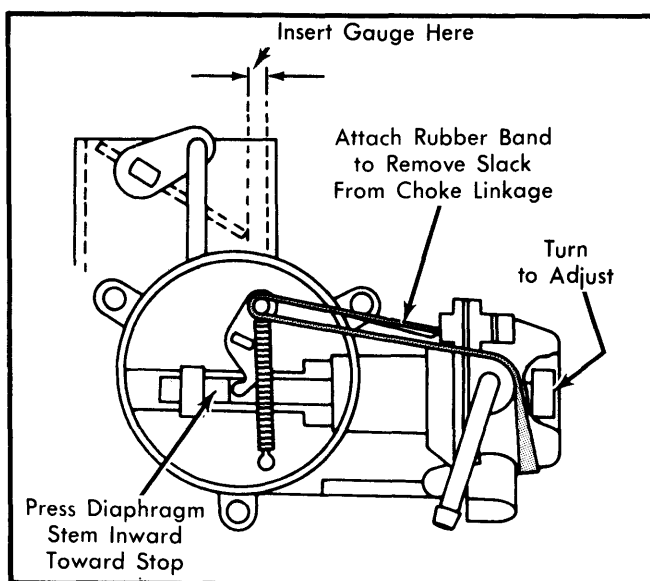

Fig. 4 Adjusting Choke Vacuum Kick
1) Before making adjustment, perform steps 1) and 2) of Automatic Choke adjustment procedures. Then place fast idle speed screw on highest step of fast idle cam. Place rubber band on choke linkage to remove all slack from choke linkage. See Fig. 4.